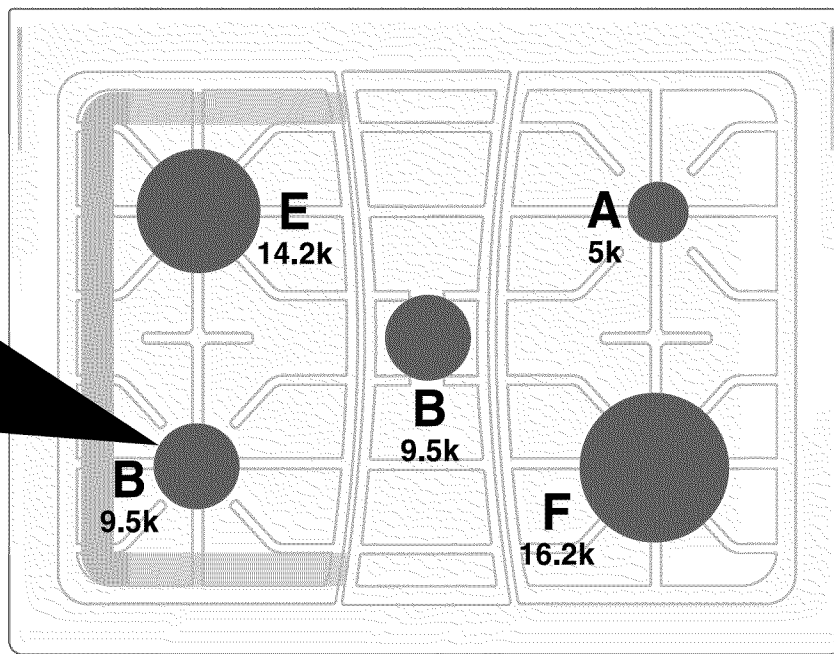

Fig. 5
- Replace the orifice in each of the 5 orifice holders with kit supplied LP/Propane gas orifice (refer to the LP Kit chart listed on page 1; also refer to Fig. 5 for the correct LP orifice installation at each of the 5 surface burner locations). Tighten each orifice until snug. Use CAUTION not to overtighten.
- Remove the five LP burner orifices using 7mm nutdriver & replace with the five original factory installed natural gas orifices at their original locations (See Fig. 5 for locations).